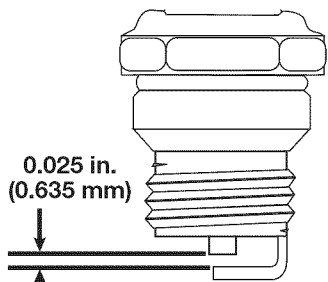

Fig. 28
3. Replace cracked, fouled or dirty spark plug. Set the air gap at 0.025 in. (0.635 mm) using a feeler gauge (Fig. 28).